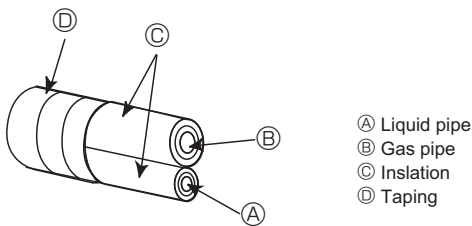
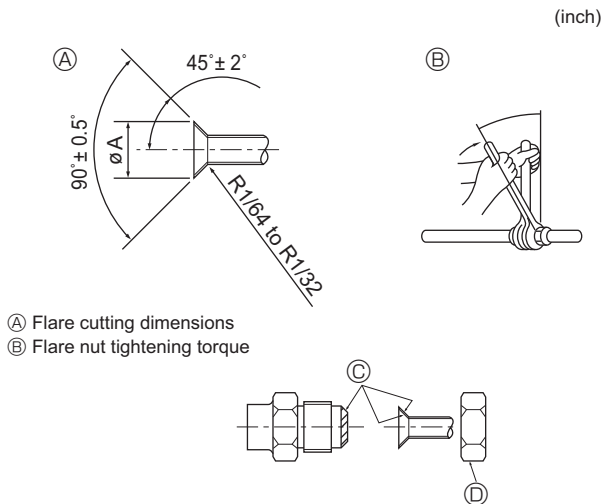

Fig. 4-1
Fig. 4-2
Ⓐ (Fig. 4-1)
Ⓑ (Fig. 4-1)
### 4.2. Connecting pipes (Fig. 4-1) (Fig. 4-2)
When commercially available copper pipes are used, inslate both the liquid and gas pipes separately with commercially available insulation materials (heat-resistant to 100 °C, 212 °F or more, thickness of 12 mm, 1/2 inch or more). (Fig. 4-1)
- The indoor parts of the drain pipe should be wrapped with polyethylene foam insulation materials (specific gravity of 0.03, thickness of 9 mm, 23/64 inch or more). (Fig. 4-2)